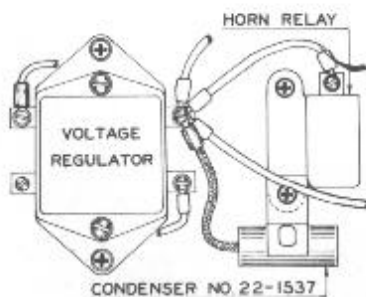

Fig. 4.
1. Remove the top mounting screw of the horn relay near the voltage regulator and under this screw mount the condenser No. 22-1537. Connect the lead to the voltage regulator battery terminal. (Fig. 4.)